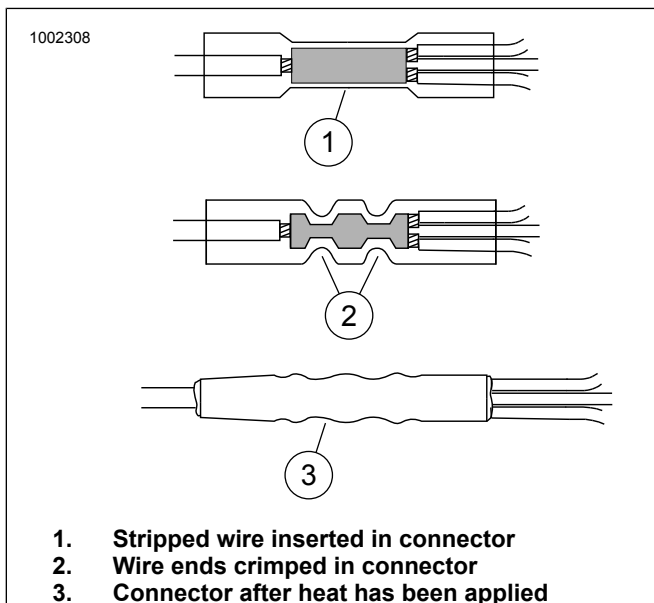

Figure 5. Install Sealed Butt Connectors
6. See Figure 5. Splice the other end of the connector into an accessory wiring circuit (9) on the main harness near the rear lighting connector (2) under the seat (orange or orange/white wire).
3. See Figure 5. For each splice, insert the wire ends into the splice connector as shown.